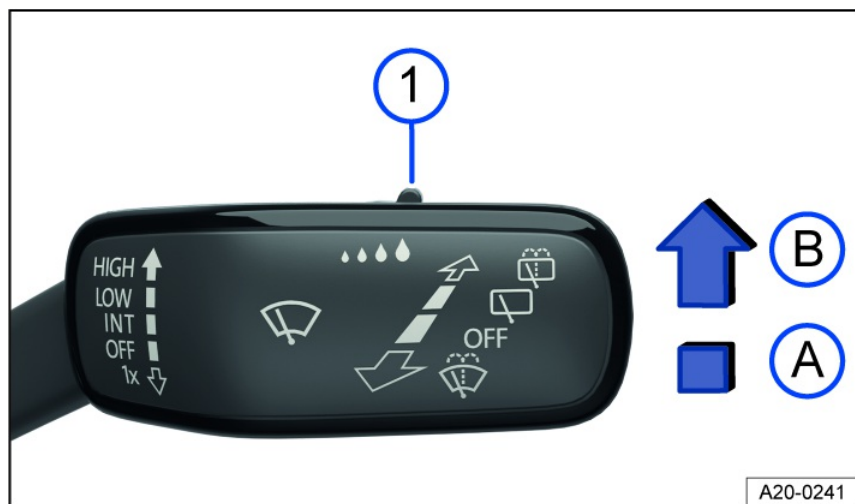

Fig. 105 On the right side of the steering column: windshield wiper lever.
1. Press the lever into the desired position fig. 105.
The sensitivity of the rain/light sensor can be manually adjusted with the switch in the windshield wiper lever fig. 105, [⇒ !\[\]\(10f8862fc183b400327470ea85afe9ae_img.jpg\)](#).